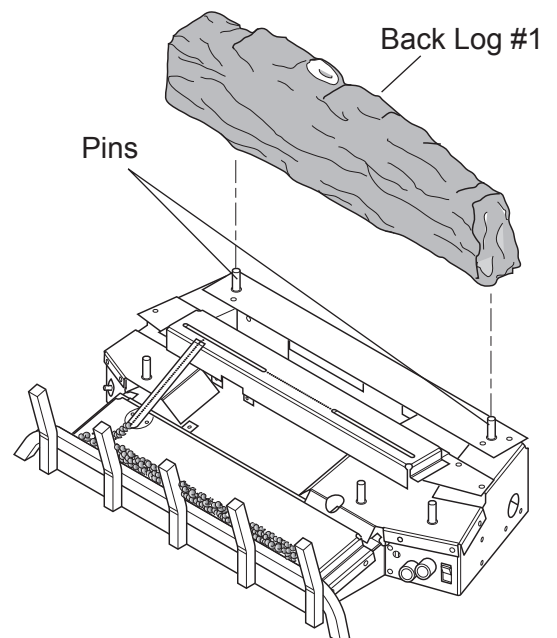

Figure 26 - Installing Back Log
1. Install back log (#1) on two pins located near the back of base. Check log position and stability. See Figure 26.